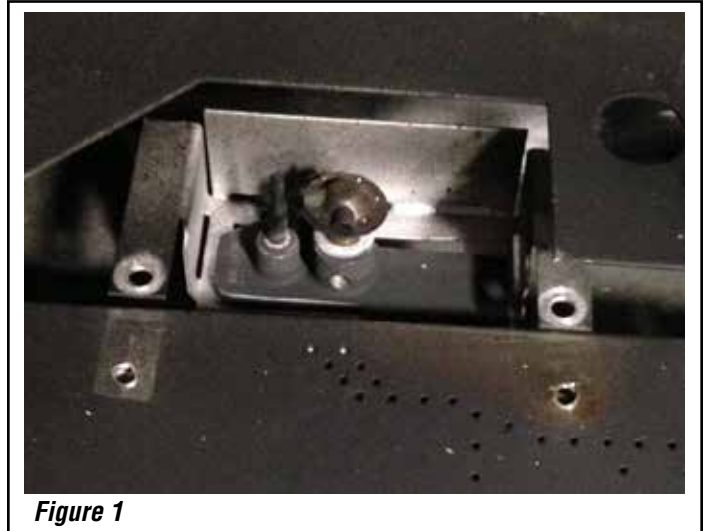

Figure 1
Step 1. Remove pilot bracket from burner, before removing the burner, by removing two screws (see *Figure 1*).